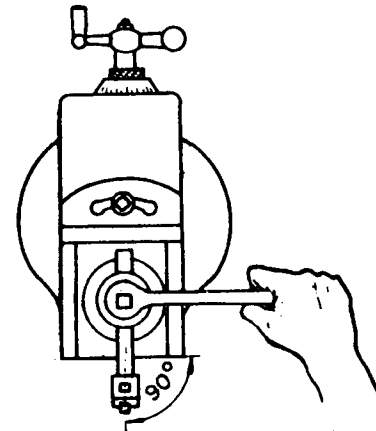

Fig. 4
- Fix the toolholder on the tool-post and tighten (Fig. 4).